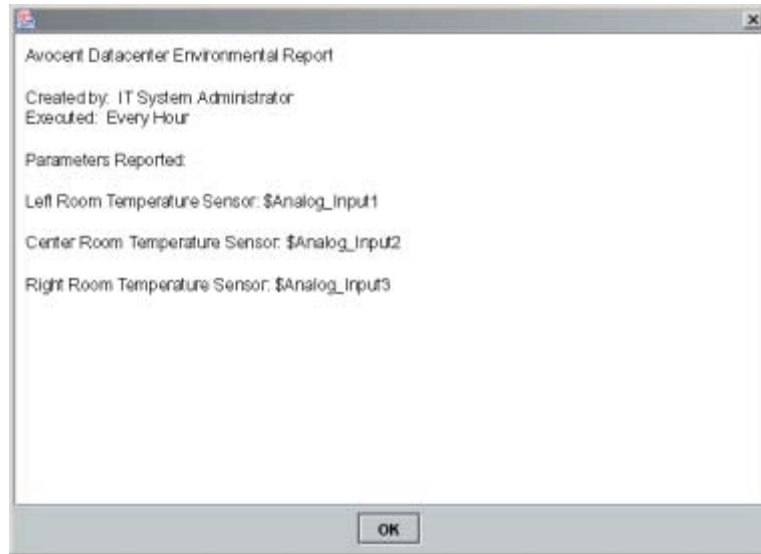

Figure 3.16: User Report
6. Click the *Test Selected* button to test the report. A message box displays the contents of the report you are testing. Click *OK* to exit the message box. See Figure 3.16 for an example of a user report.